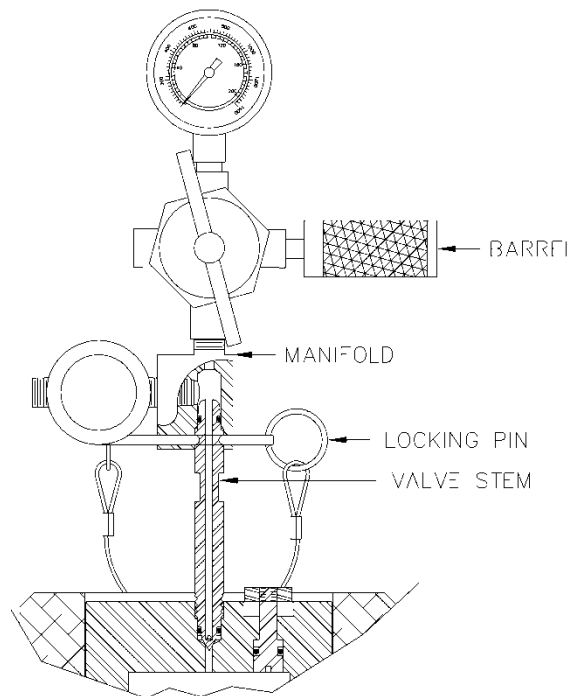

Figure 5-2 CO2 Pressure Unit
1. Install the pressure unit on the inlet (top) valve stem and insert the locking pin. Refer to Figure 5-2.